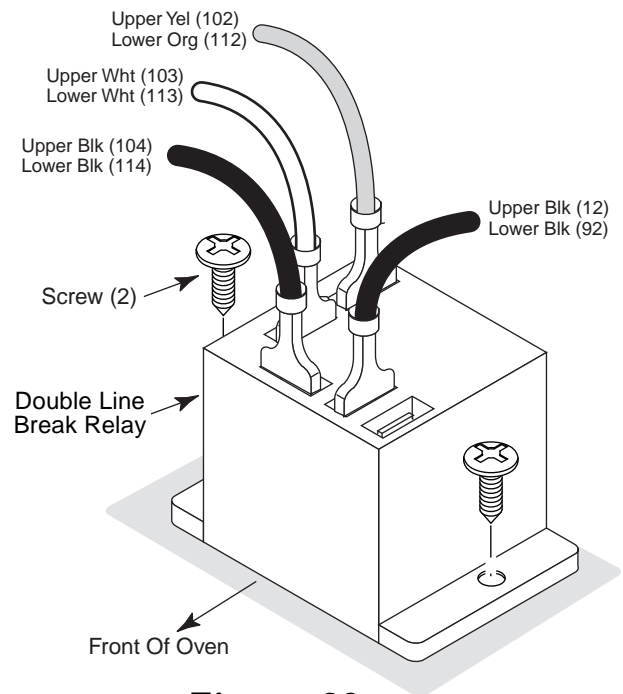

Figure 29
6. **To remove an oven stalled fan relay (see Figure 29):**